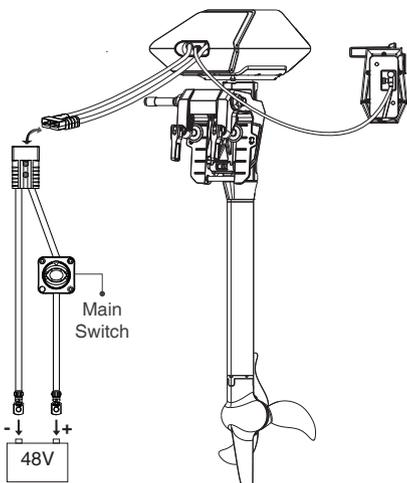
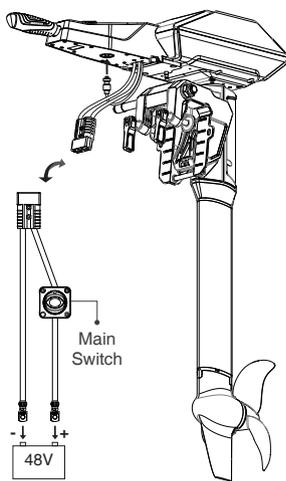

Figure 5-15
Figure 5-16
**Step2:** Connect NAVY outboard and Remote Control/Tiller with a communication cable. Please refer to Figure 5-15 or Figure 5-16.